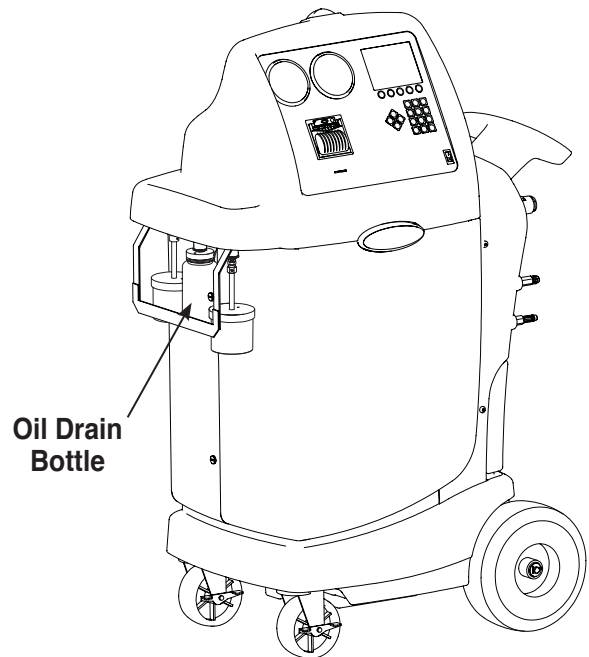

Figure 8
1. Verify the oil drain bottle on the side of the unit is empty. See Figure 8. Recover refrigerant as outlined in this manual under *Recover Refrigerant from a Vehicle*.